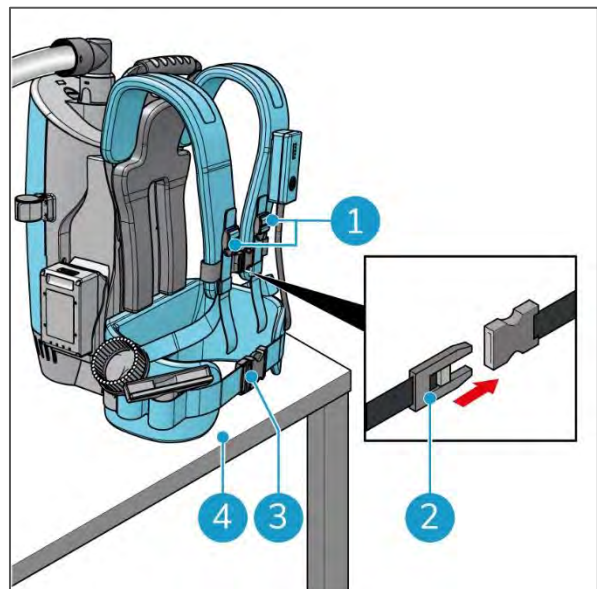

Figure 14
1. Place the i-move 2.5B on a table or similar (Figure 14, pos 4).
2. Open the waistband (Figure 14, pos 3).
3. Loosen the buckle at the front (Figure 14, pos 2).
4. Loosen the 2 buckles (Figure 14, pos 1).
6. Place the i-move 2.5B on a table or similar (Figure 14, pos 4).